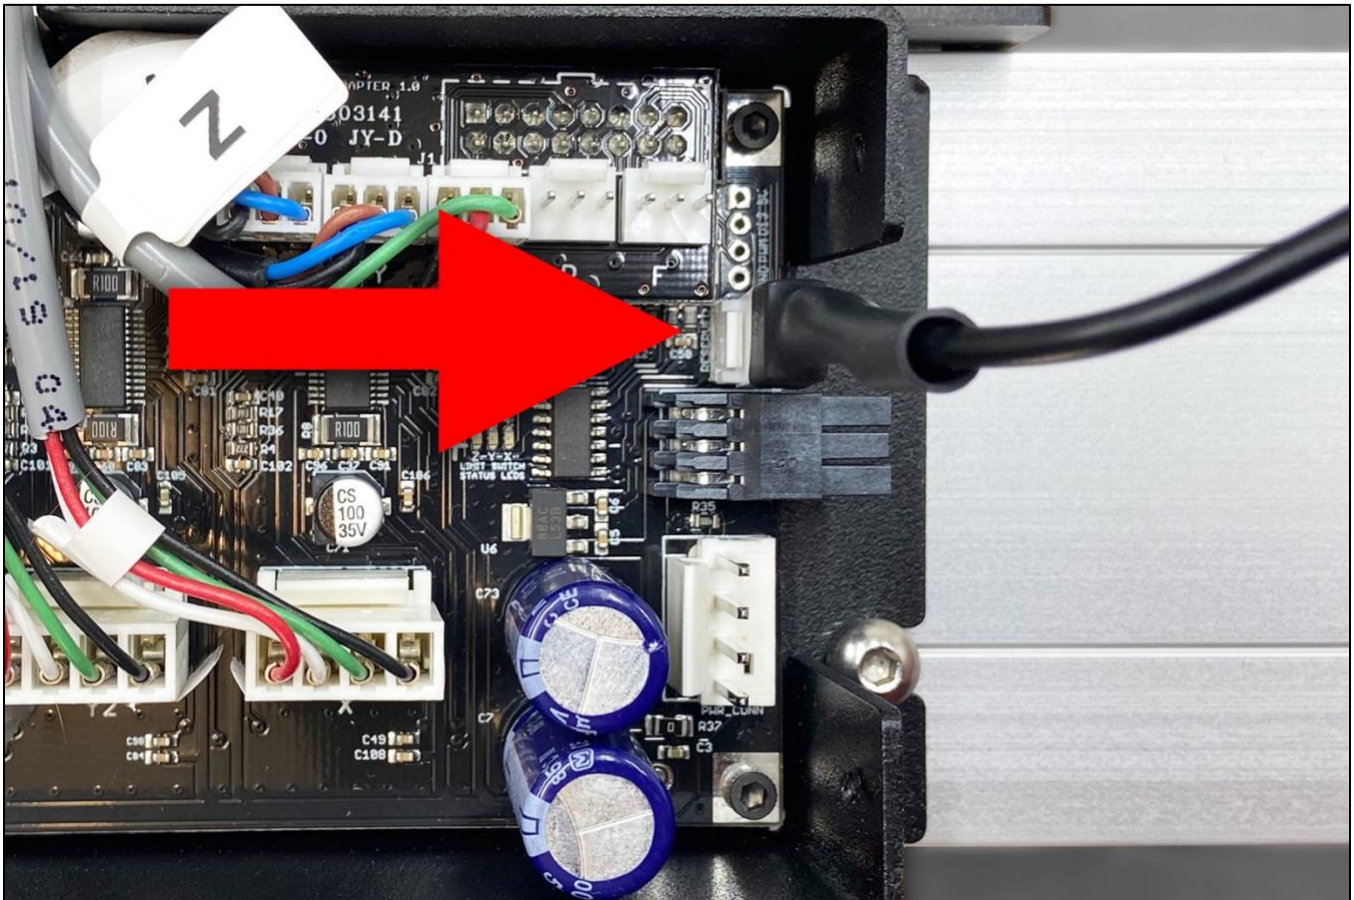

Figure 6
1. If you only have the BitZero V2, you can connect it directly to the port labeled *Reserved*. See **Fig. 6**.